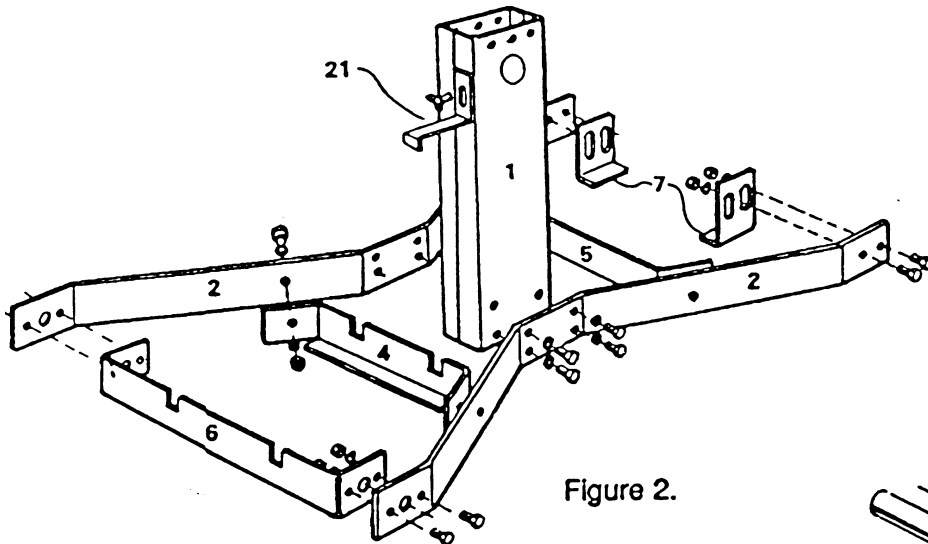

Figure 2.
2. Refer to fig. 2. Select the following parts for assembly:
2b. Select Left Mid-Brace (Part 4). Place it as shown in Figure 2. Be sure notches are up and narrow flange is away from Stand Tube.
12. Attach the Tank Top Brace (see Figure 2) to the Stand Tube with the wing bolt through the slotted hole in the brace. Slide Brace down until outer end hooks over top ring of propane tank. Tighten securely.